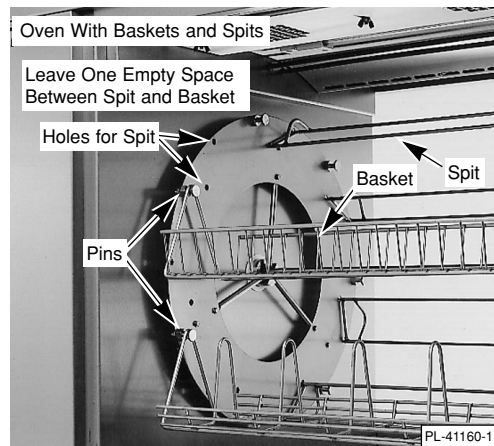

Fig. 7
4. Insert spits, leave one space, then hang baskets (Fig. 7).